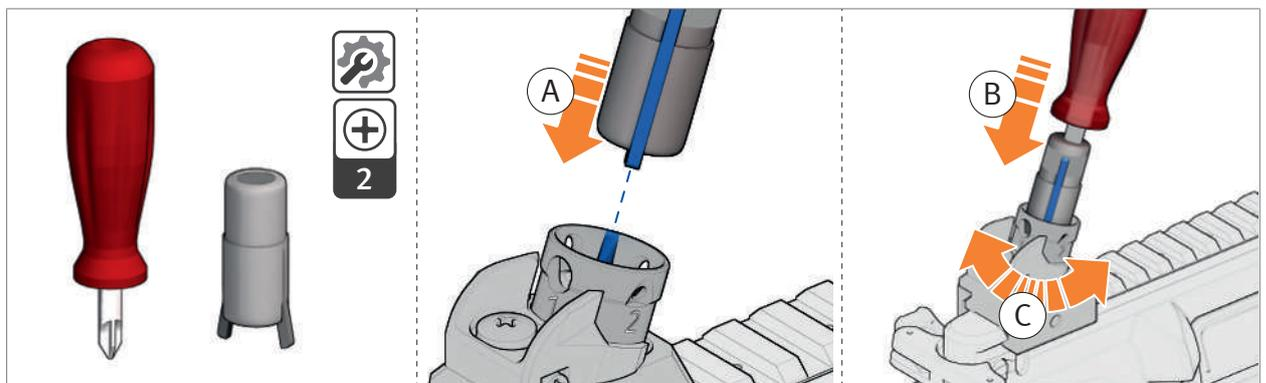

Fig. 82: Turn drum sight
1. Insert elevation adjustment tool into drum sight while inserting the wedges of the tool into the grooves of the drum sight (Fig. 82).
2. Insert screwdriver in tool for elevation adjustment (Fig. 82).
3. Press screwdriver downwards and hold it (Fig. 82).
4. Turn the drum sight in the desired direction (Fig. 82).
› Turn drum sight clockwise (Fig. 82).	Turning by one lug mark alters the point of impact by approx. 1.4 cm at a range of 100 m.
› Turn drum sight anti-clockwise (Fig. 82).